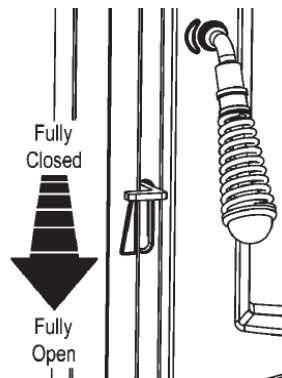

Figure 2
3. Set the secondary air slider to the required position depending on the fuel being burned i.e. open when burning wood and closed when burning coal/ anthracite (see Figure 2).